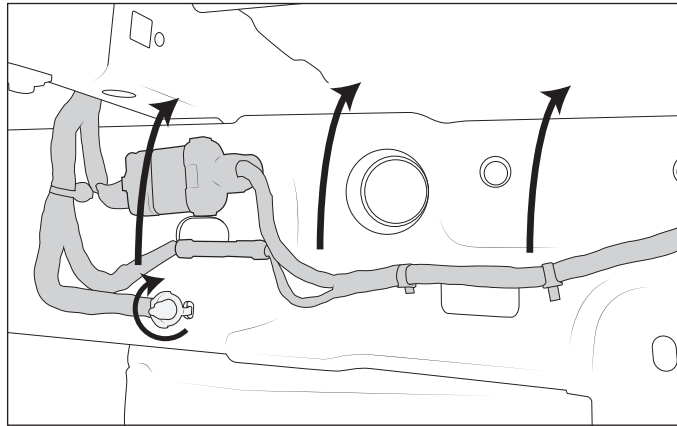

Figure 30
- A. Unclip the zip ties from the frame so the harness can be moved above the frame rail. Loosen the bolt on the ground and rotate 90 degrees then tighten back down, the small tab can be bent to sit flush on the frame rail (fig. 30).